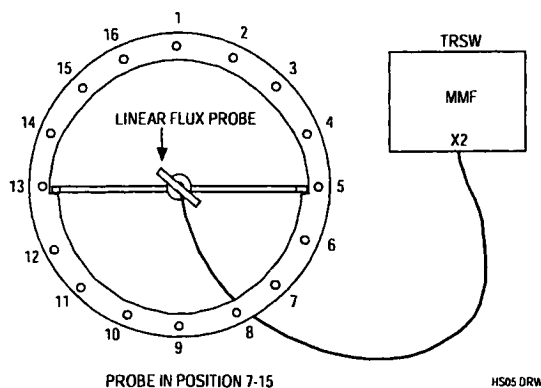

Figure 29 Frequency adjustment mode 7 - 15
4. Position the flux probe in position 7-15 (Figure 29)